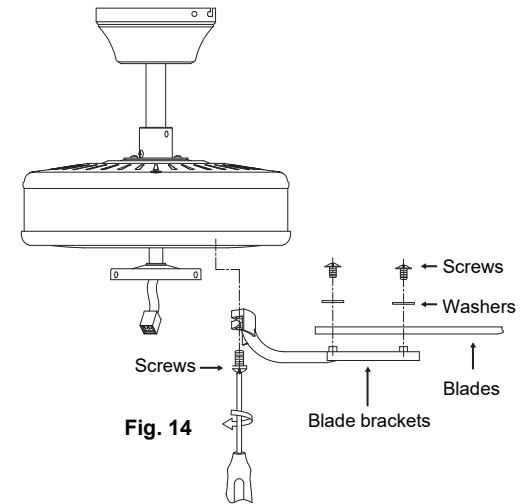

Fig. 14
Step 1. Attach the blade to the blade bracket using the screws and washers as shown in **Figure 14**. Start screw into bracket. Repeat for the two remaining screws.